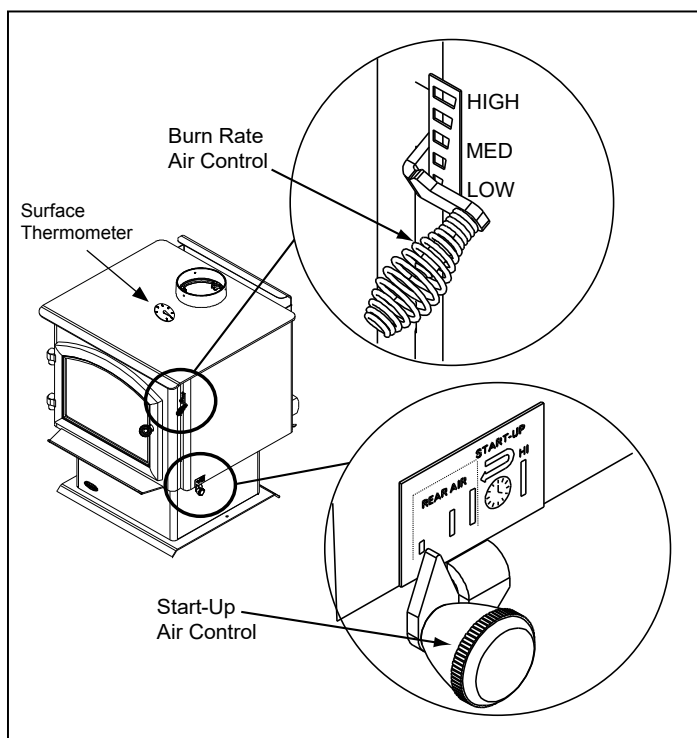

Figure 10.1
2. **Second Stage:** The next stage of burning, the secondary stage, is the period when the wood gives off flammable gases which burn above the fuel with bright flames. During this stage of burning it is very important that the flames be maintained and not allowed to go out. This will ensure the cleanest possible fire. If the flames tend to go out, it is set too low for your burning conditions. The air control located at the upper right hand corner is used to adjust for burn rates. This is called the **Burn Rate Air Control (Figure 10.1)**.
- Then activate the ACC timer system by pushing the knob all the way back toward the appliance to "HI" then pull forwards towards the front of the appliance until the knob stops (**Figure 10.1**).
A surface thermometer tells you when to adjust the air control, and when to refuel, Figure 10.1.